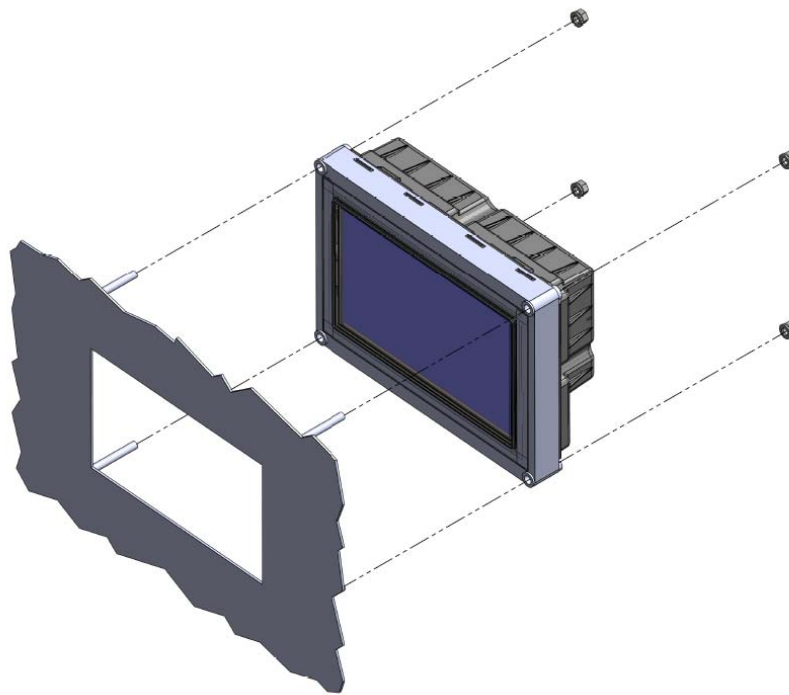

Figure 8
3. Install nuts and washers (supplied with the terminal) onto each of the four mounting studs. Torque all nuts to 90.4 N cm (8 lbs in) to create a seal between the terminal gasket and the panel. Avoid overtightening the nuts. Refer to Figure 8.